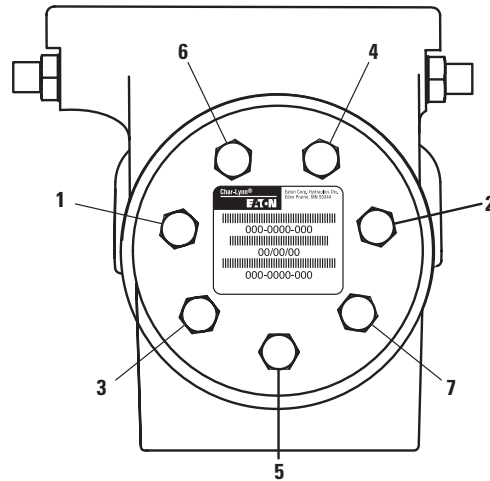

Figure 29
34. Install 7 dry cap screws in end cap. Pretighten cap screws to 17Nm [150 lb-in], then torque screws to 28-34 Nm [250-300 lb-in] in sequence shown in figure 29.